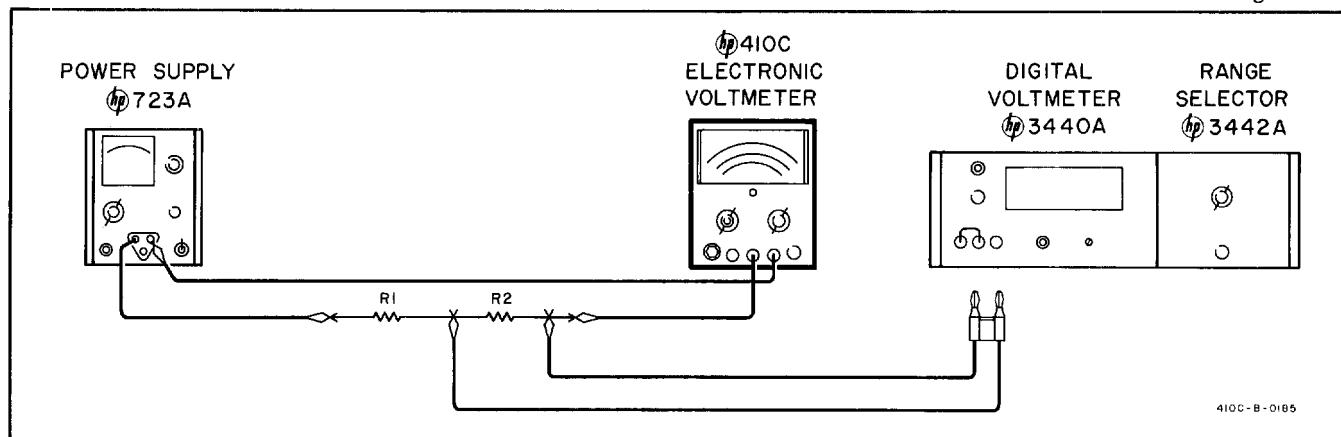

Figure 5-2. DC Ammeter Operation
- a. Figure 5-2 describes the test arrangement required for this operation. The following additional equipment will also be required:
- b. Connect the Model 410C as shown in Figure 5-2; FUNCTION SELECTOR to +DCA; RANGE to 150 MA.
- a. Figure 5-2 describes the test arrangement required for this operation. Replace R1 and R2 with a 10 ohm  $\pm 1\%$  resistor (Part No. 0727-0335).